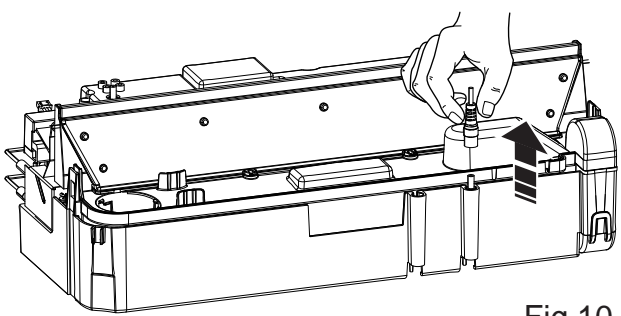

Fig.10
**Warning** – Always press Switch 'A' to the 'OFF' (0) position (Fig.10) and disconnect from the power supply before cleaning the fire.